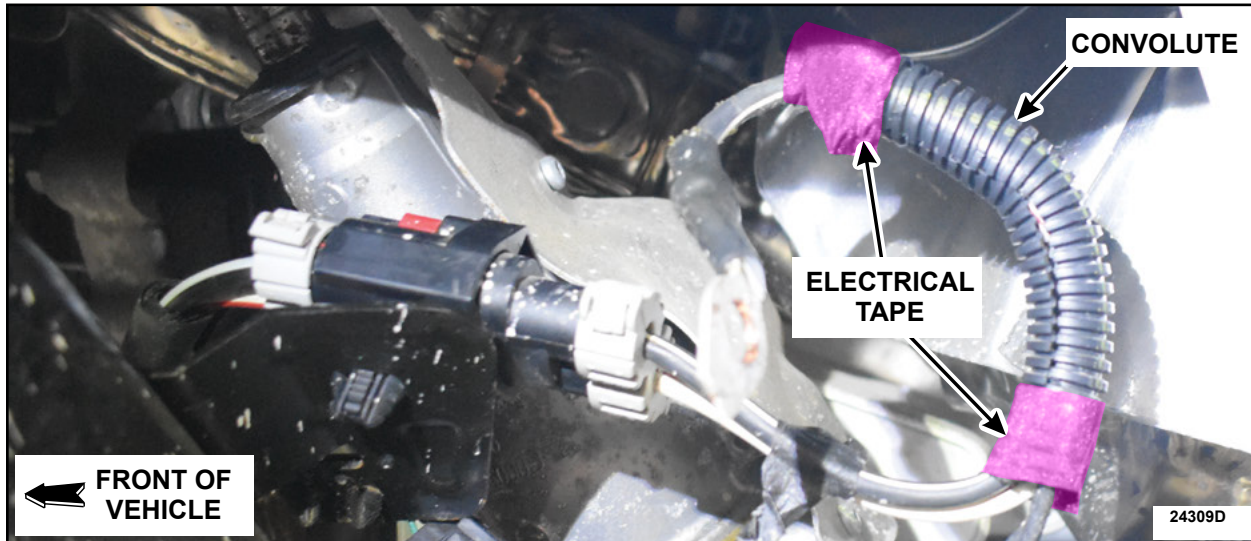

FIGURE 4
7. Remove the electrical tape and convolute. See Figure 4.